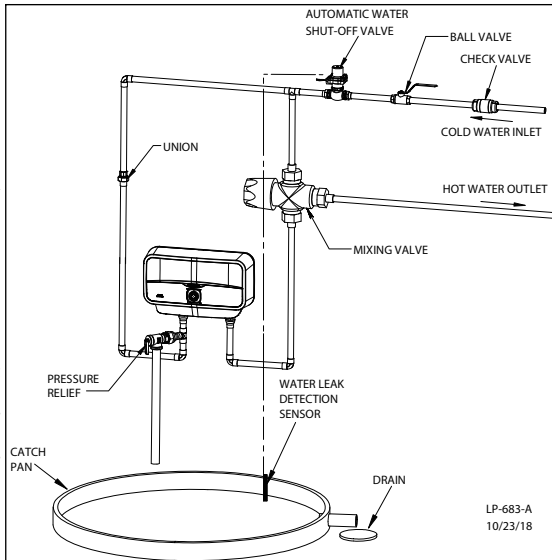

Figure 8 - Installation Detail
- Connect the water inlet line to the entry point of the heater (left side inlet), and connect the outlet line to the water outlet. Use a line that can withstand a minimum pressure of 58 psi. Using any other type of line will cause damage. See Figure 8.